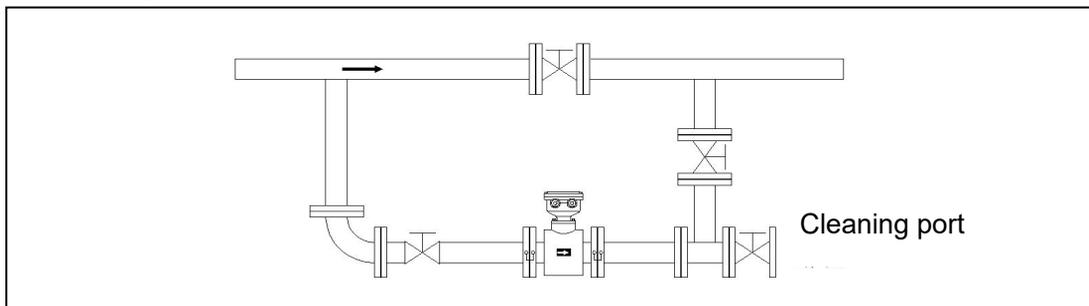

Figure 4.2.4 Installation that causes flow disruption is not allowed in the pipe.
4) For pipes where flow interruption is not allowed in the process, at the same time, bypass pipes and cleaning ports need to be added next to the installation of flow timing. Figure 4.2.4 this device needs to ensure that the equipment system can work continuously when the flowmeter is out of use.